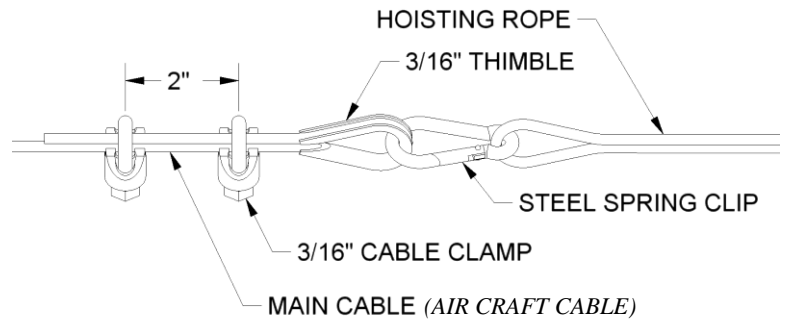
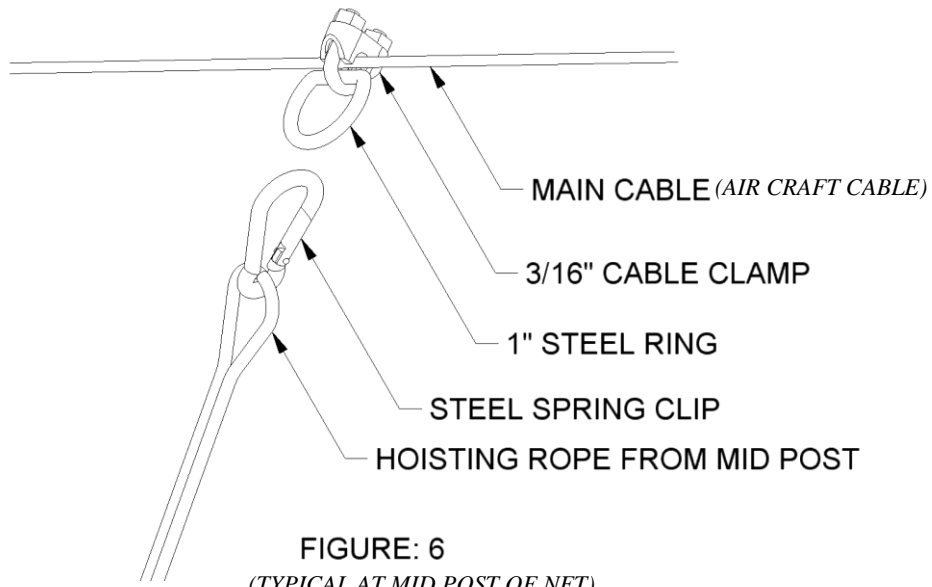

FIGURE: 5
FIGURE: 6
- 8) Make up the ends of the cable as shown in Figure 5. The cables should measure roughly 56 ft or 71 ft, from thimble to thimble.
- 14) Adjust the position of the net so it is centered. Now lower the net to about 4 ft above the ground and attach a D-ring (#18) at each intermediate attachment point, as shown in figure 6. This will make future installation of the net a snap. Attach the spring clip onto the D-ring.
(ATTACHES TO FIGURE: 5 THIMBLE OR FIGURE: 6 STEEL RING)